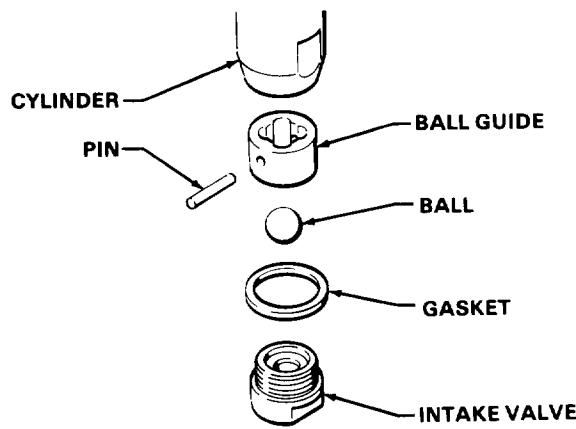

Fig 9
Disassembling the Pump (Refer to Figures 9 and 10.)
1. Unscrew the intake valve from the cylinder. Remove the gasket, ball guide, stop pin and ball from the valve. Clean and inspect the parts for wear or damage, replacing parts as needed. Always use a new gasket (included in Repair Kit 218-303). Refer to Fig 9.